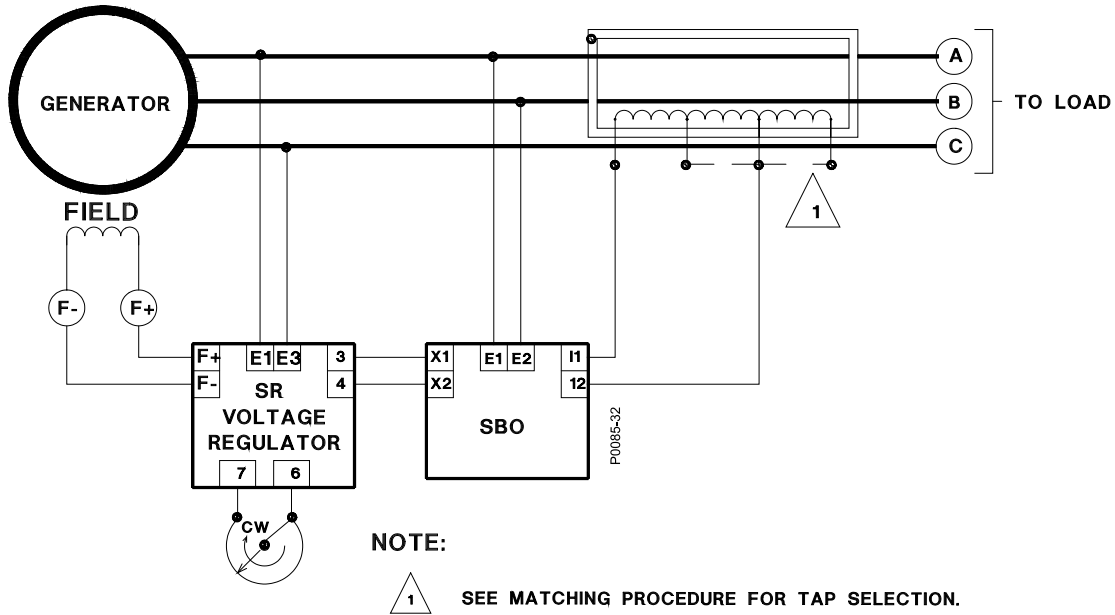
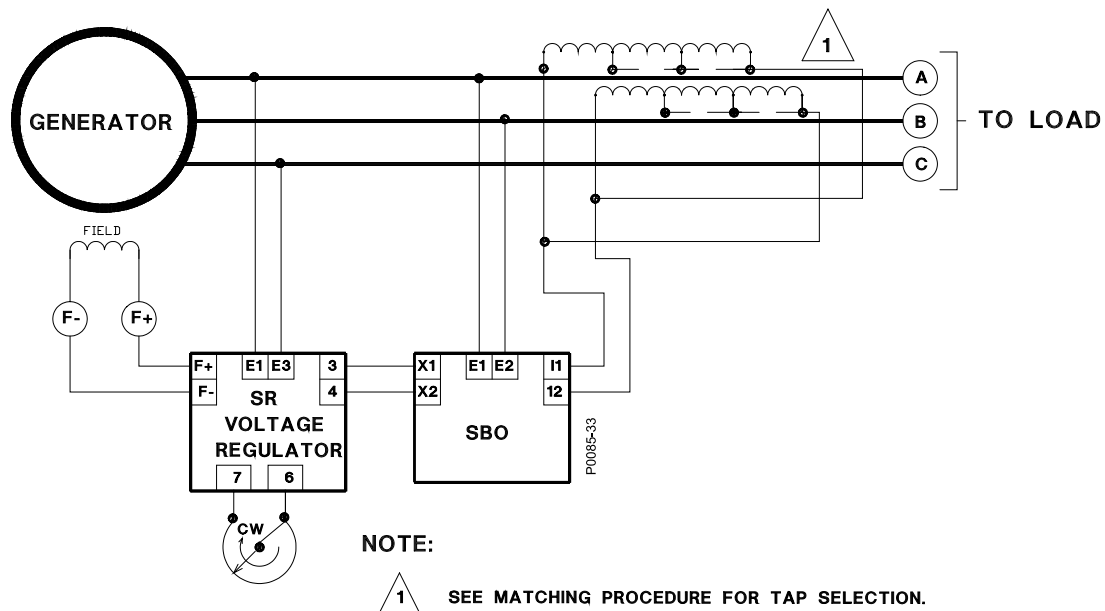
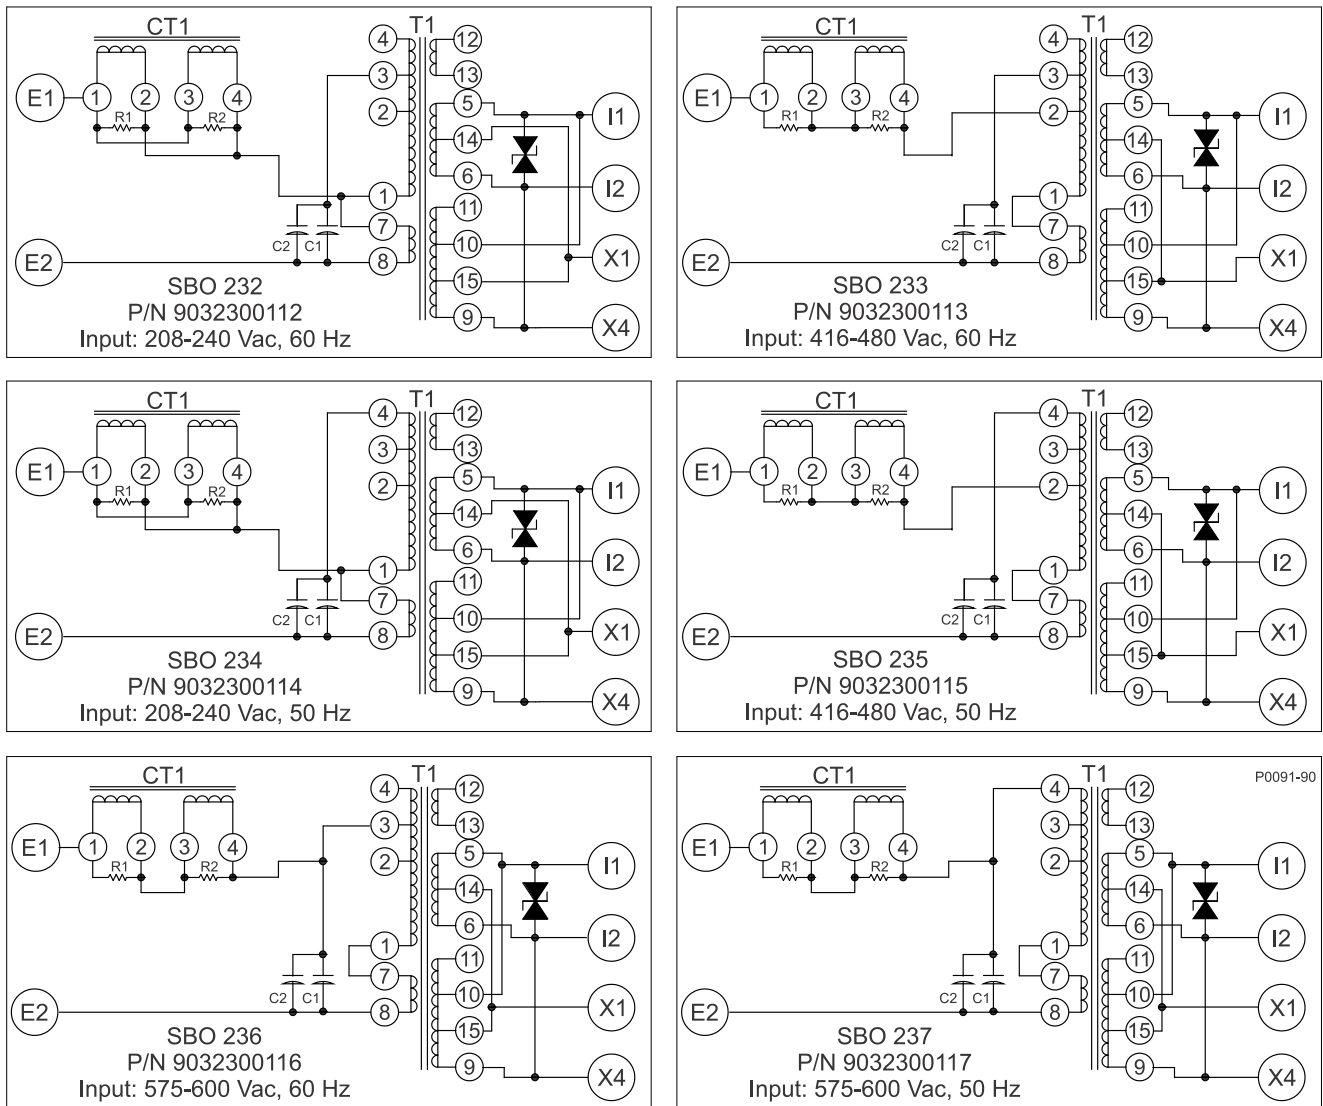

Figure 4. Interconnection, SBO and One CT
Figure 5. Interconnection, SBO and Two CTs
Figure 6. Schematic Diagrams, Reservoir Assemblies
Connect the Excitation Support System as shown in Figure 4 or Figure 5. Reservoir assembly schematic diagrams for the six SBO models are provided in Figure 6. The phase relationship between the SBO voltage and current inputs is critical. Incorrect phasing will prevent the Excitation Support System from maintaining sufficient current to the voltage regulator and poor regulation will result.
1. Ensure correct interconnection by comparing the SBO connections with those of Figure 4 or Figure 5.